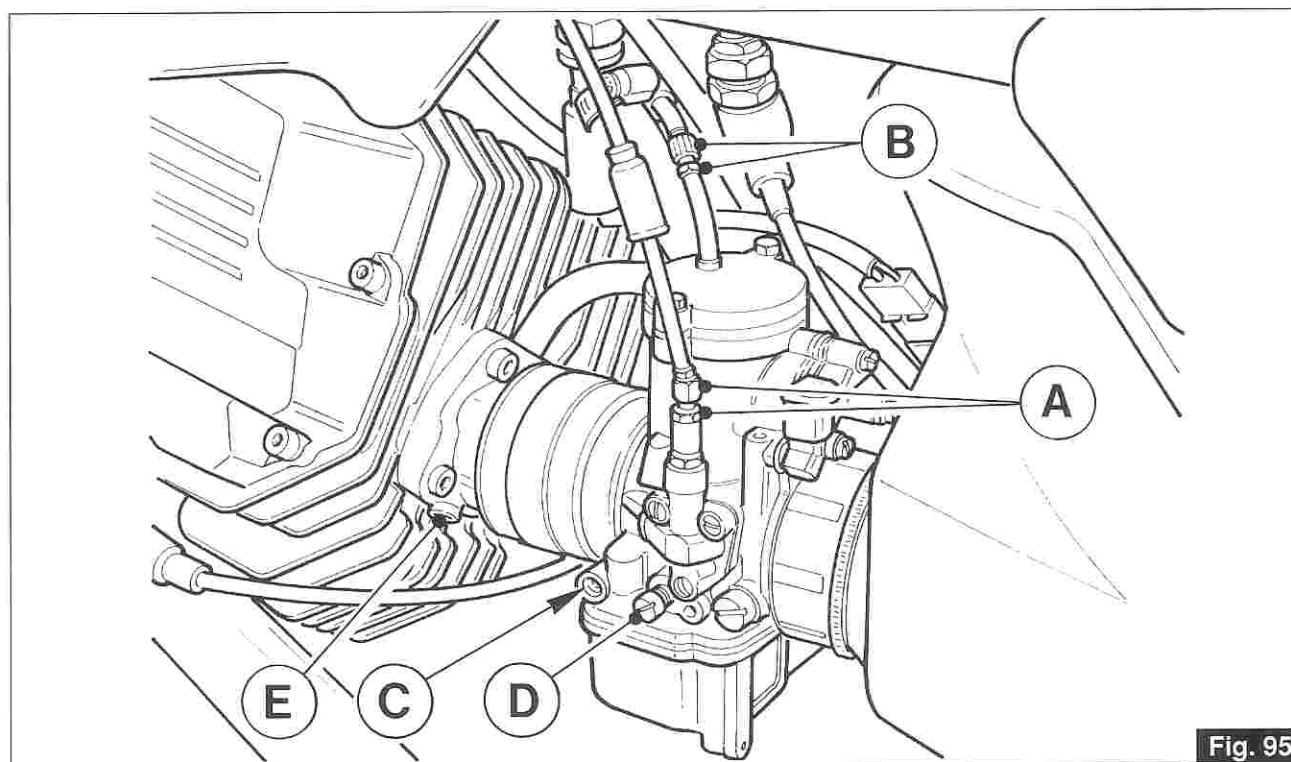

Fig. 95
11.2 CONTROLLO CARBURAZIONE CON VACUOMETRO (fig. 95)
11.2 CHECKING CARBURATION WITH A VACUOMETER (Fig. 95)